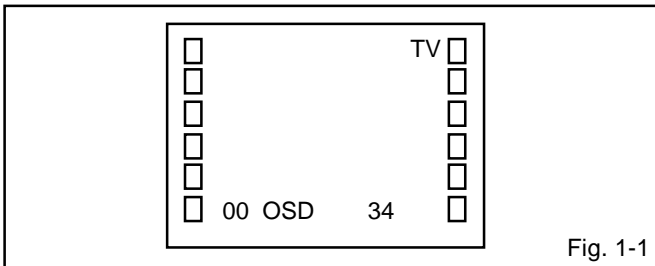

Fig. 1-1
1. In the condition of NO indication on the screen. Press the VOL. DOWN button on the set and the Channel button (9) on the remote control for more than 1 second to appear the adjustment mode on the screen as shown in Fig. 1-1.
2. Activate the adjustment mode display of Fig. 1-1 and press the channel button (01) on the remote control to select "CUT OFF".
4. Activate the adjustment mode display of Fig. 1-1 and press the channel button (12) on the remote control to select "R. BIAS".
3. Activate the adjustment mode display of Fig. 1-1 and press the channel button (03) on the remote control to select "H. PHAS".
3. Activate the adjustment mode display of **Fig. 1-1** and press the channel button **(06)** on the remote control to select "H. SIZE".
3. Activate the adjustment mode display of **Fig. 1-1** and press the channel button **(07)** on the remote control to select "V. SIZE".
3. Activate the adjustment mode display of **Fig. 1-1** and press the channel button **(08)** on the remote control to select "V. LIN".
3. Activate the adjustment mode display of **Fig. 1-1** and press the channel button **(33)** on the remote control to select "LEVEL".
3. Activate the adjustment mode display of **Fig. 1-1** and press the channel button **(30)** on the remote control to select "PARABOLA".
3. Activate the adjustment mode display of **Fig. 1-1** and press the channel button **(32)** on the remote control to select "TRAPEZIUM".
3. Activate the adjustment mode display of **Fig. 1-1** and press the channel button **(34)** on the remote control to select "SEP 1".
4. Activate the adjustment mode display of **Fig. 1-1** and press the channel button **(34)** on the remote control to select "SEP 1".